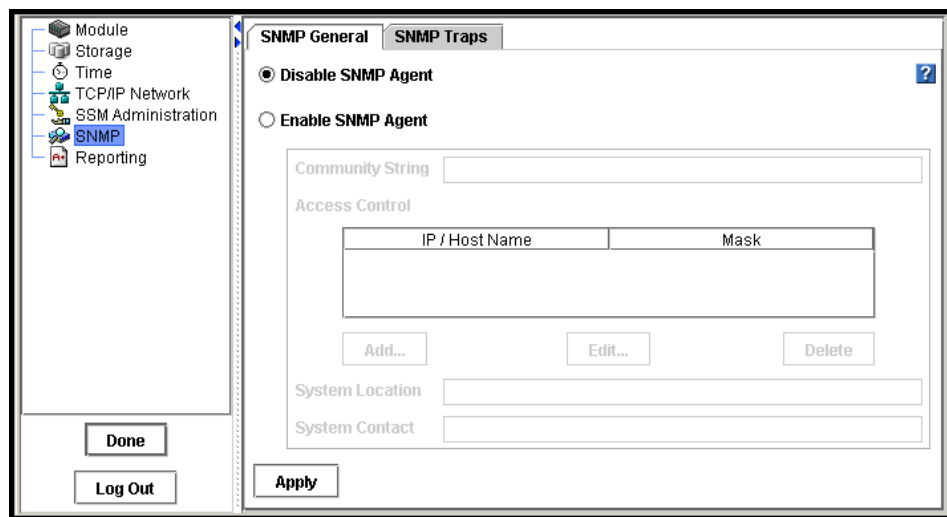

Figure 107. Using SNMP
2. Select SNMP from the configuration categories. The SNMP General tab opens, shown in Figure 107.
2. Select SNMP from the configuration categories. The SNMP General window opens, shown in Figure 107.
2. Select SNMP from the configuration categories. The SNMP General window opens, shown in Figure 107 on page 141.